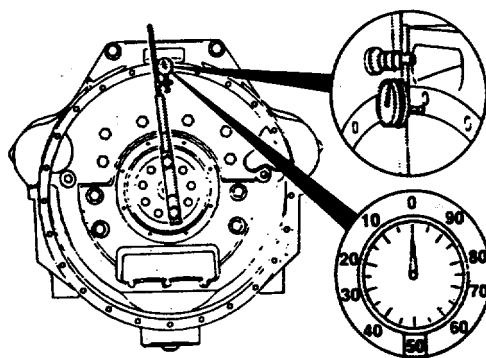

FIGURE 3-32a. Flywheel Housing End Clearance Measurement.
- (4) Position the indicator at the 12 o'clock position. Adjust the dial to "0" (FIG. 3-32a).